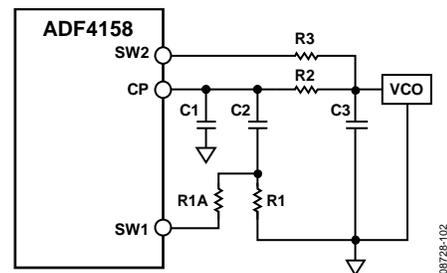

Figure 46. Fast-Lock Loop Filter Topology—Topology 2
- Connect an extra resistor (R1A) directly from SW1, as shown in Figure 46. The extra resistor must be chosen such that the parallel combination of an extra resistor and the damping resistor (R1) is reduced to $\frac{1}{4}$ of the original value of R1.